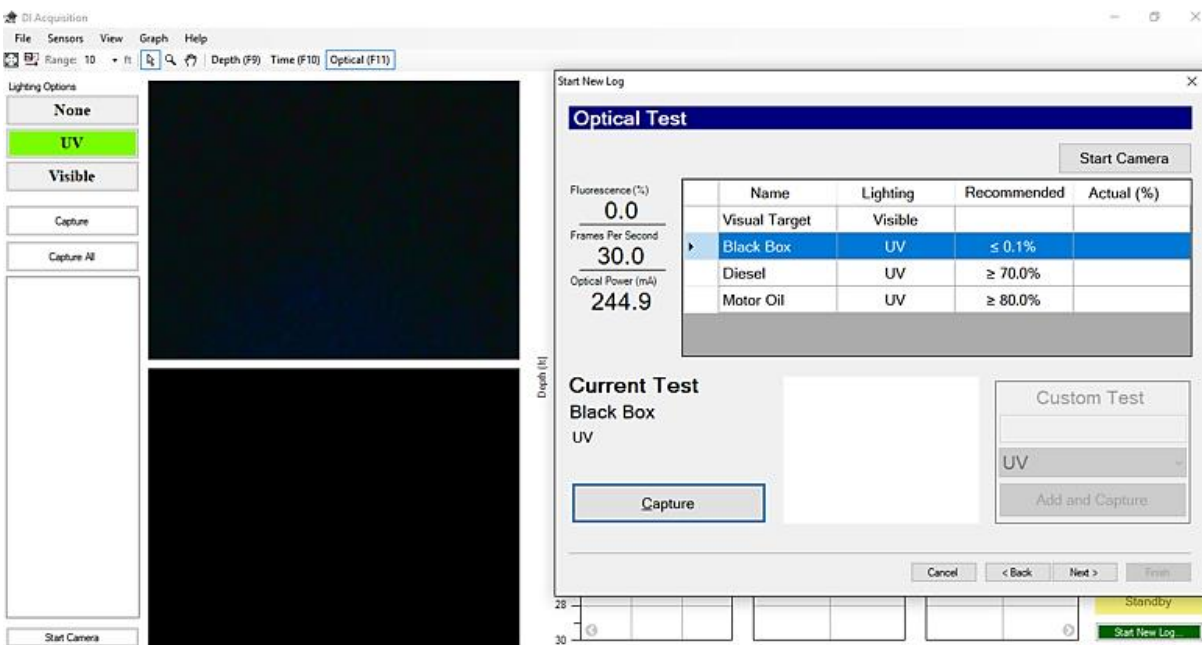

Figure 5.8 DI Acquisition OIP QA Screen with Black Box
4. Place an empty side of the Cuvette Holder over the window. Use the camera display to ensure that no external light is passing through the cuvette holder over the window (Fig. 5.8). Capture the image for the black box test. The measured fluorescence should be less than 0.1%.